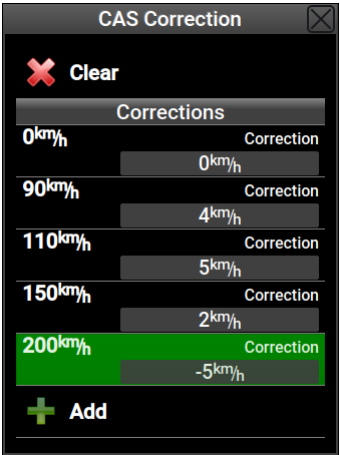

Figure 4.25: An example of the CAS correction table.
2. Enter points as shown in the Figure 4.25.